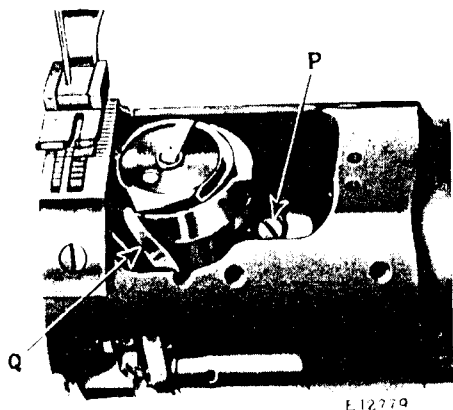

Fig. 19. Adjustment of Mechanical Opener
The bobbin case lever (Q, Fig. 19) at the left of the sewing hook, actuated by the eccentric on the hook washer, strikes the
The bobbin case lever (Q) may be adjusted by loosening the bobbin case lever fulcrum screw (P, Fig. 19) and moving the fulcrum forward or backward.